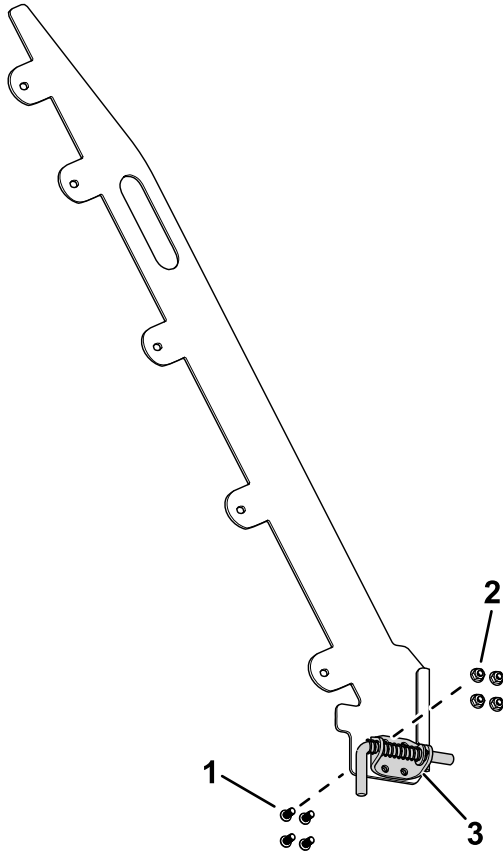

Figure 9
1. Use 4 torx-head screws and 4 nuts (5/16 inch) to secure the latch-pin bracket to the guide plate on the ramp assembly (Figure 9).